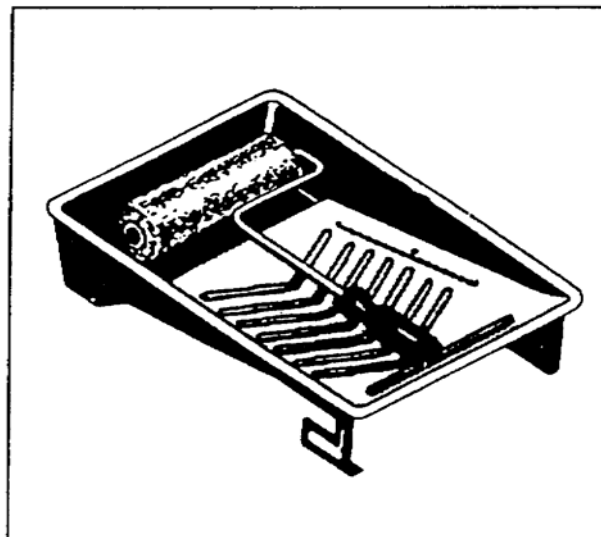

Figure 3-36. Paint roller and tray
d. **Paint Roller Trays.** A roller tray (Figure 3-36) is usually a shallow, rectangular container made of metal. The tray is used to apply paint to the roller, and the tray size is determined by the roller's width. To control the amount of paint that stays on the roller, pull the roller over the ridges in the bottom of the tray. Clean the roller first, then clean the tray with the same materials you used to clean the roller.